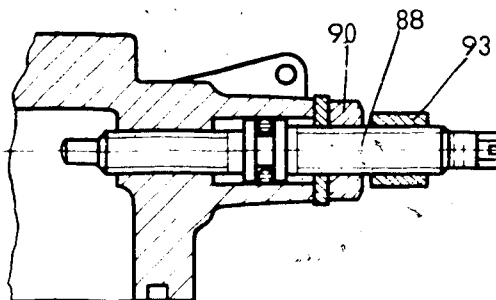

Fig. 3
All VE..F.. distributor-type fuel-injection pumps are being provided with longer threaded pins (88) as full-load stop screws. These threaded pins are secured by way of an external spacer sleeve (93) (Fig.3). The previous internal spacer sleeve between the housing cover and threaded pin is no longer necessary.